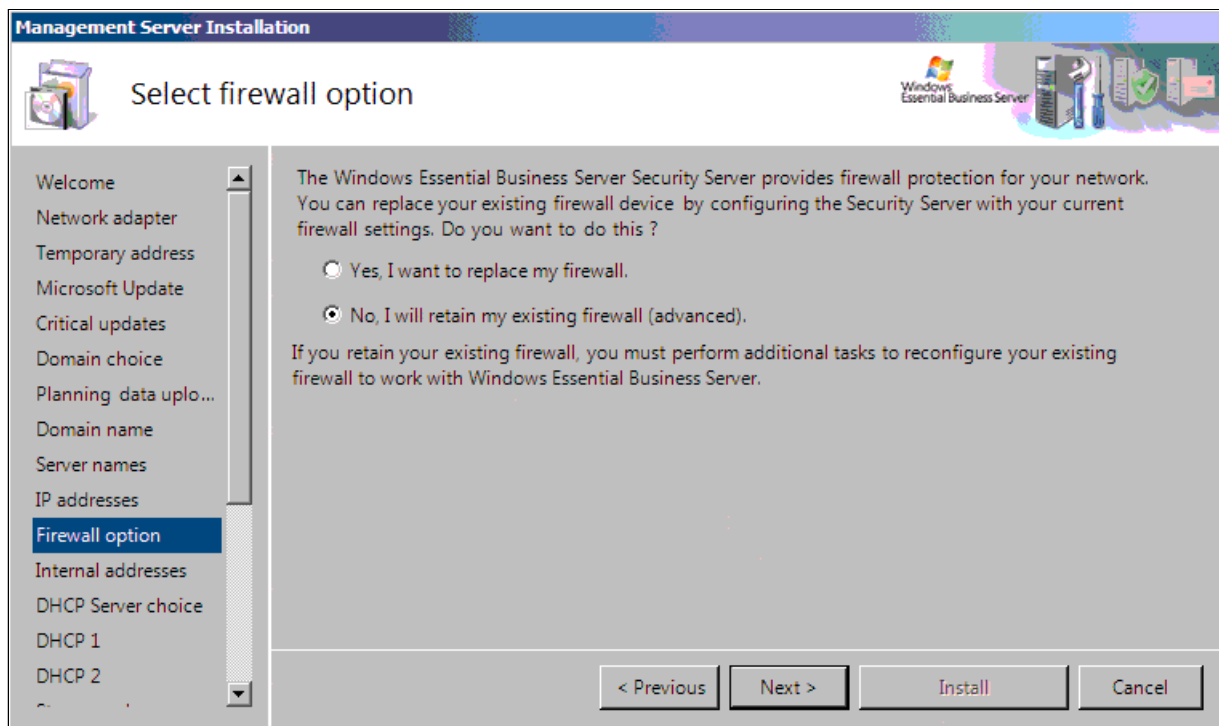

Figure 4-13 Select firewall option
19. On the “Select firewall option” panel (Figure 4-13), select the appropriate firewall option for your requirements. In our example, we selected the **No, I will retain my existing firewall (advanced)** radio button. Click **Next**.